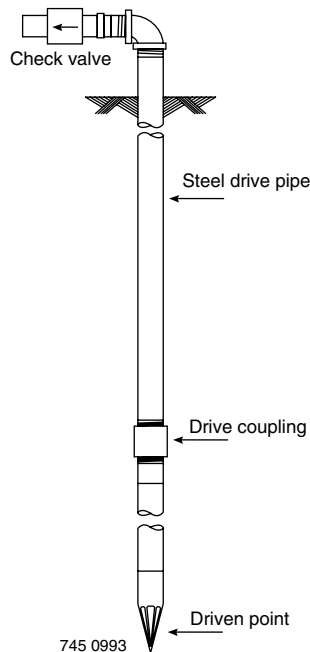

Figure 2: Driven Point Installation
1. Connect the suction pipe to the drive point as illustrated in Figure 2. Keep horizontal pipe run as short as possible. Use Teflon tape on male pipe threads. Multiple well points may be necessary to provide sufficient water to pump.